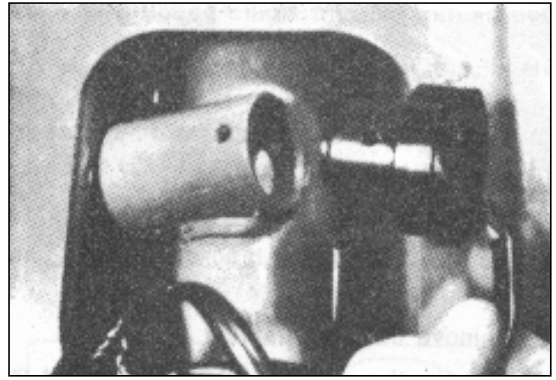

Fig. 220 - Ignition switch on lock body
- (b) Ignition switch is located on the lock body fixed with grub screw. (fig.220).